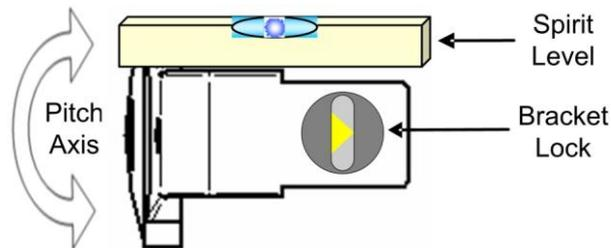

Figure 15: Leveling the *AfiFree* Body Bracket – Pitch Axis
3. Place a spirit level on one bracket arm and level the bracket manually along the pitch axis (Figure 15).